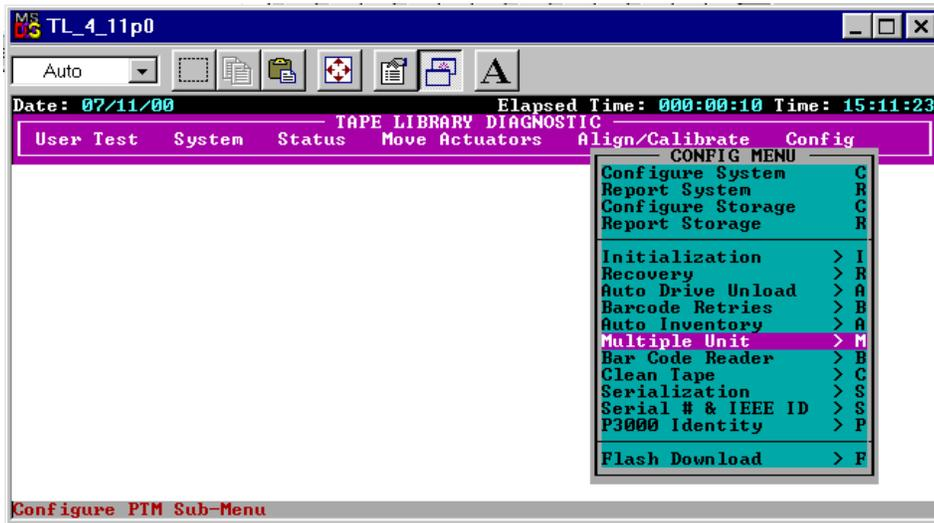

Figure 3-12. Multi-Unit Configuration menu
2. From the Config Menu, select Multiple Unit (see Figure 3-12).